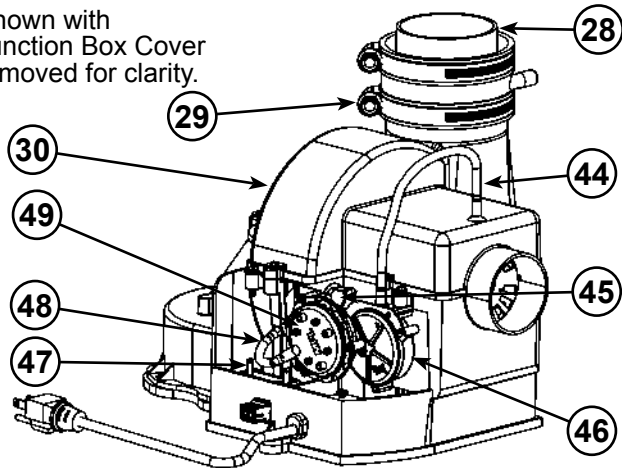

Figure 5.
| 8 T&P Valve | 25 Baffle Assembly | 44 Air Tubing (Intake) (see Figure 5) |
| 9 * Discharge Pipe | 26 Hot-Water Outlet Nipple/Anode | 45 Blower High Limit Switch (see Figure 5) |
| 10 **Combo Heating System Return Inlet (Optional) | 27 *Inlet Water Shut-off Valve | 46 Intake Air Pressure Switch (NC) (inside box) (see Figure 5) |
| 11 Gas Control Valve/Thermostat (Honeywell) | 28 ****Rubber Coupling (see Figure 5) | 47 Capacitor (see Figure 5) |
| 12 Gas Valve Electronic Control Module And Cover (Honeywell) | 29 Gear Clamp (see Figure 5) | 48 Air Tubing (Exhaust) (see Figure 5) |
| 13 Drain Valve | 30 ***Blower with Power Cord (see Figure 5) | 49 Exhaust Air Pressure Switch (NO) (inside box) (see Figure 5) |
This device is located on the blower (see Figure 5, item 45) and limits the maximum temperature of the blower. If the blower temperature rises above the temperature setting, the switch opens causing the heater to shut down. The switch will auto reset once the temperature drops sufficiently.
The blower/heater is equipped with two air pressure switches located in the junction box (see Figure 5, item 46 and item 49). These devices are connected in series and monitor the air pressure produced by the blower. In the event that the exhaust venting becomes blocked or sufficiently restricted, the normally open (NO) air pressure switch will shut down the heater. In the event that the intake pipe becomes sufficiently blocked or restricted, the normally closed (NC) air pressure switch will shut down the heater.